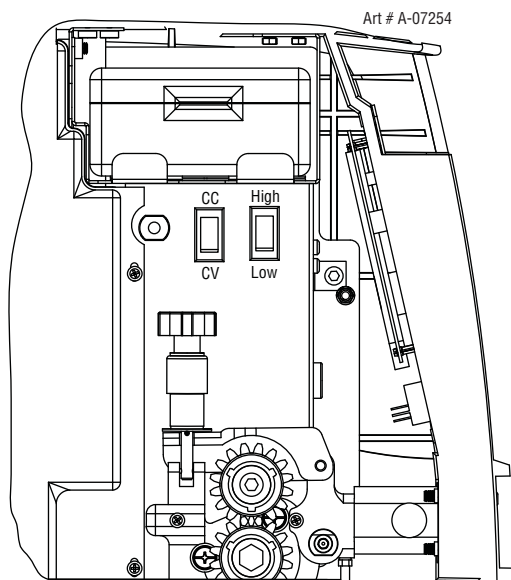

Figure 4-1: CC/CV Switch Location
5. Set the CC/CV mode switch on the wire feeder to the proper position (refer to paragraph 12, CC/CV Mode Switch on page 2-9 and figure 4-1).